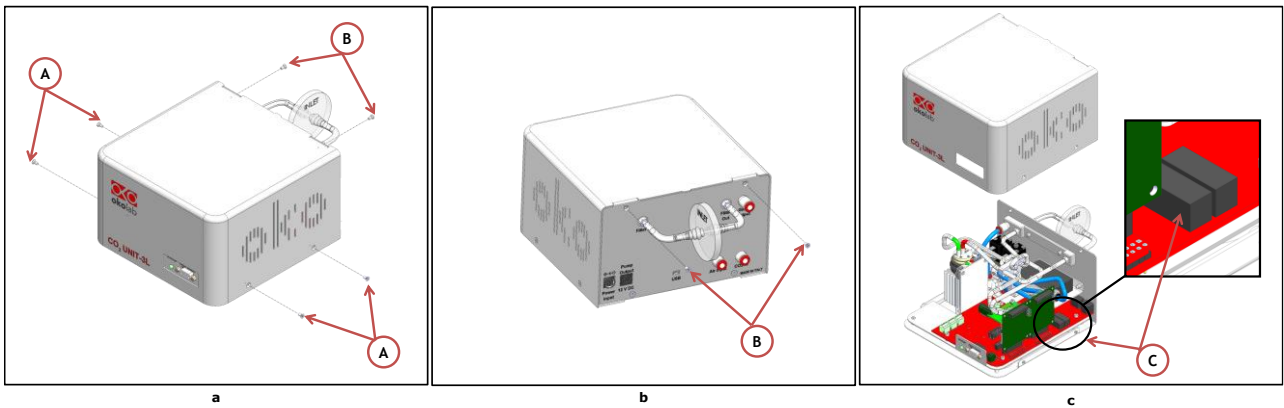

Figure 52. (a) and (b) How to disassemble the chassis of CO2-UNIT-3L; (c) Fuses position inside CO2-UNIT-3L.
- 1 Loosen the screws (M3x6, A in Figure 52, a) on the sides of the metal cover and the screws (M3x6, B in Figure 52, b) on the rear panel of CO2-UNIT-3L.
- 2 Lift the cover as shown in Figure 52, c to access the inside of CO2-UNIT-3L and to the fuses (see C in Figure 52, c) to replace them.